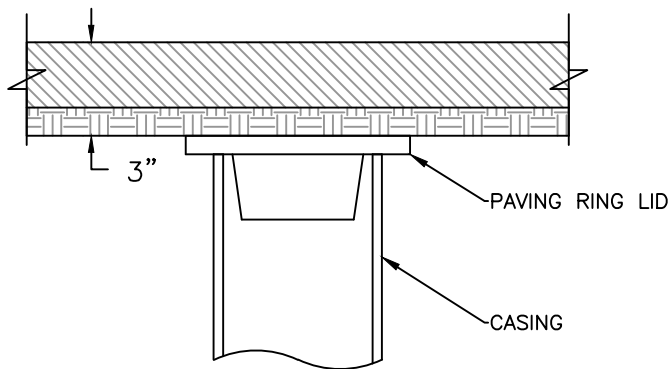

FIG. NO. 1
4. PAVE OVER CASING (FIG. NO. 1)